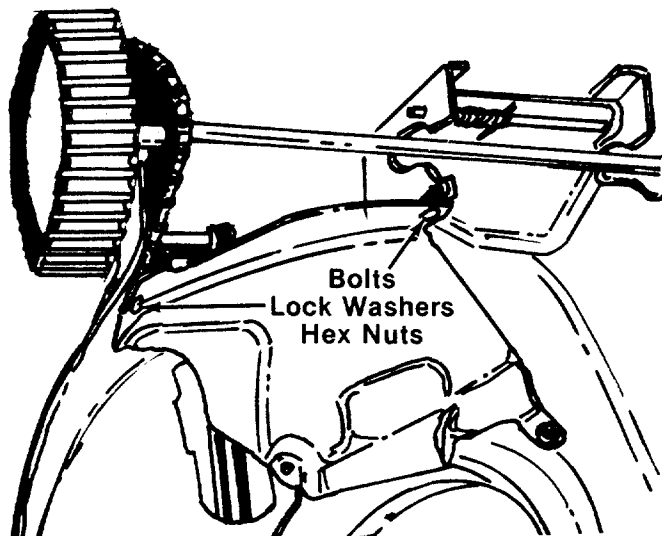

FIGURE 28.
7. Remove the rear baffle by removing three bolts, lock washers and hex nuts. See figure 28.